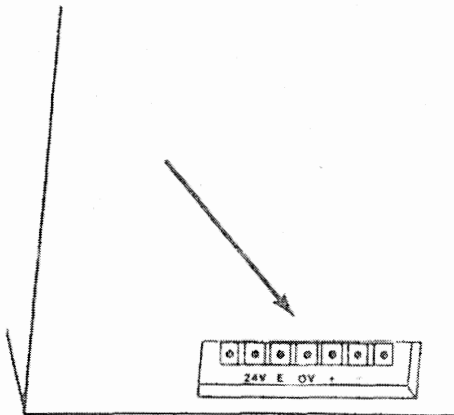

FIGURE 9
02.13 Remove the terminal strip cover from the **OUTPUT/24V, 8A-24V/BATTERY** terminals (Figure 9).